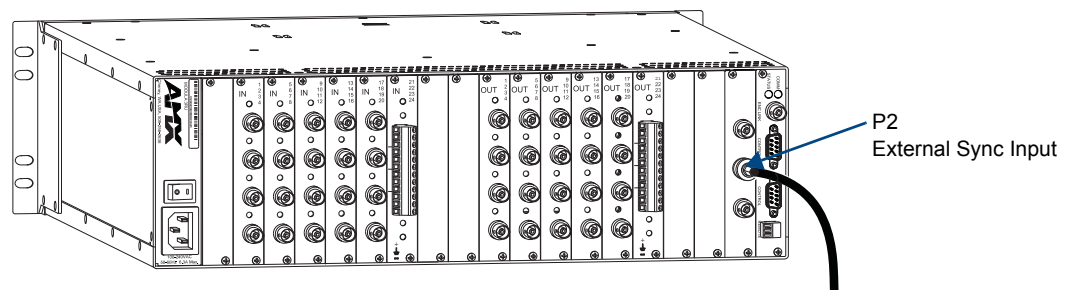

FIG. 119 Fasten external sync cable to P2 connector
1. Attach the external sync cable to the External Sync Input (P2) connector on the VIS board (FIG. 119).